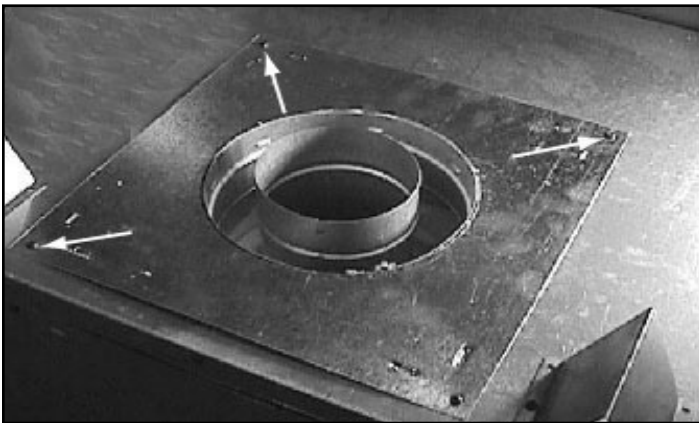

Figure 7.2 Cover Plate, Remove Screws
Note: If the appliance is to be top vented discard this plate and replace the screw you removed. If the appliance is to be rear vented, continue to the next step and Figure 7.2.
- Remove three remaining screws holding the plate surrounding flue. See Figure 7.2. Remove plate and set aside.